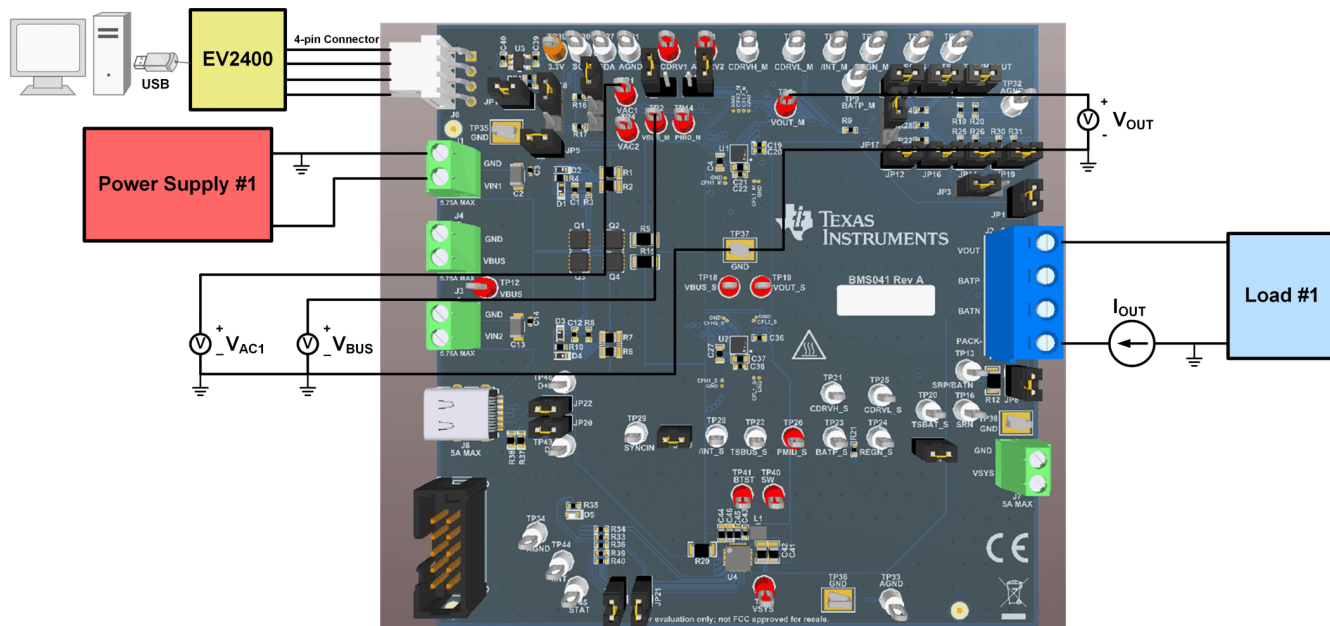

Figure 2-1. Equipment Test Setup
Use the following list to set up the EVM testing equipment. Refer to Figure 2-1 for the test setup connections to the EVM.
8. Connect Load #1 to J2 (VOUT and PACK-). Connect a current meter in series to measure the output current, as shown in Figure 2-1.